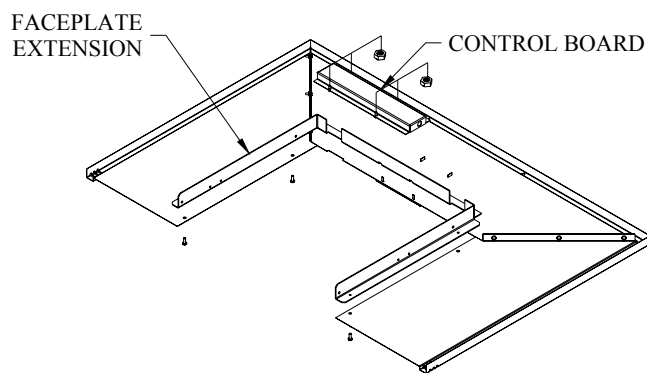
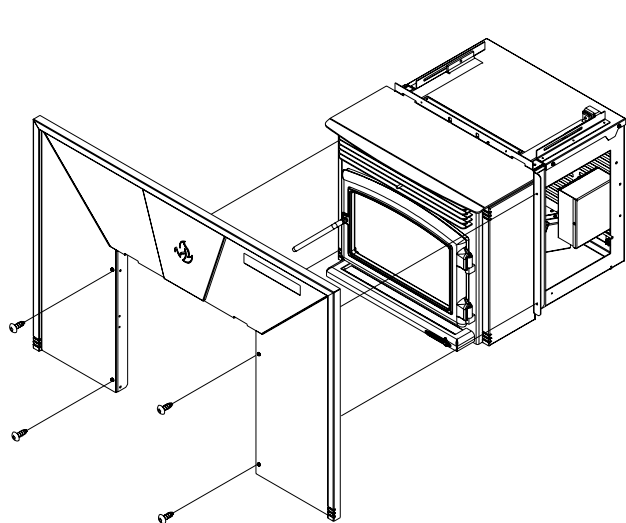

Figure 31
Figure 32
- 7- Install the control board on the upper right side of the faceplate(Figure 31). Slide the faceplate on the insert as shown in Figure 32 and secure it to the stove with 2 screws on each side.